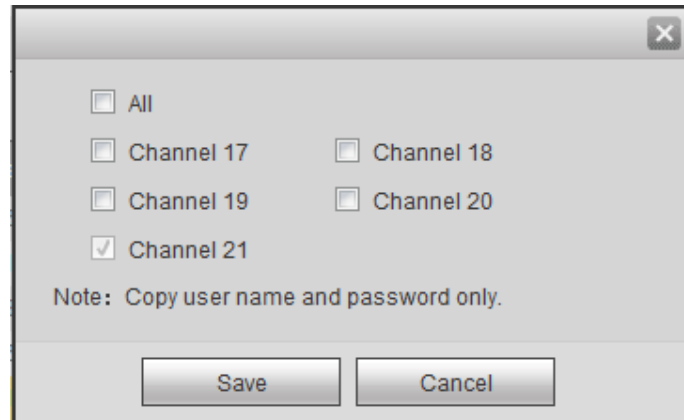

Figure 4-28
- ◇ Click Copy, device pops up the following dialogue box. It is to copy the user name and password to the selected channel(s). See Figure 4-28.